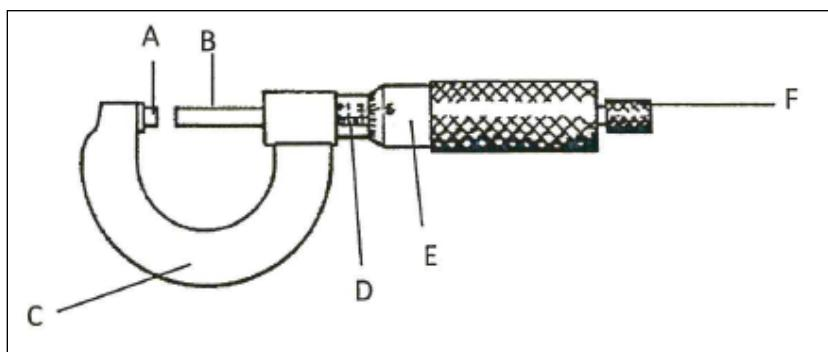

Figure 1a / Rajah 1a
- (a) Name the parts labelled **A, B, C, D, E** and **F** as shown in **Figure 1a**.